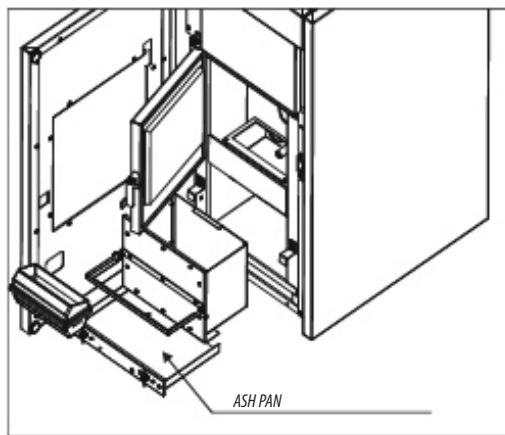

Figure 2
- **Clean the smoke conveyor compartment (fig.2)** - The boiler is fitted with a removable ash pan designed to collect any soot and ash build-up.